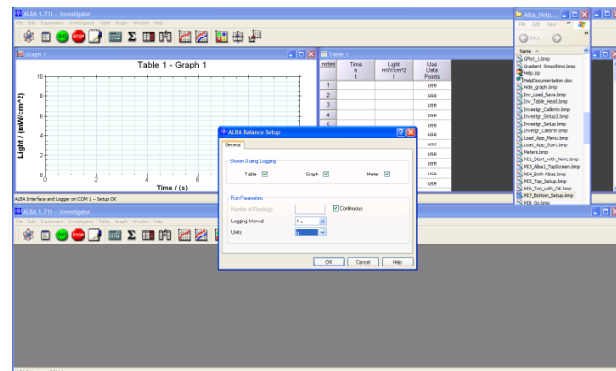

Figure 100
Step 7: Click in the lower window to select it. Now click the GO icon and set up Balance Software - Figure 100.